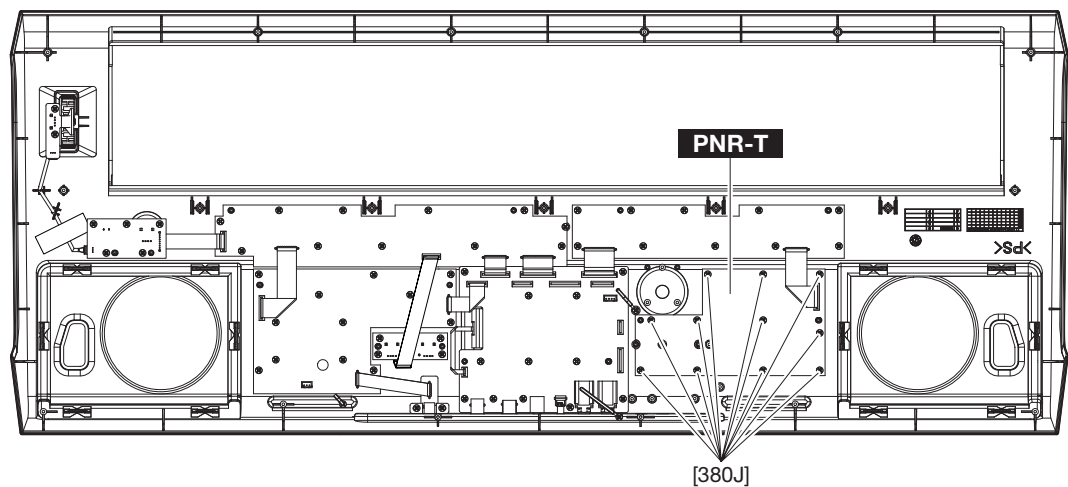

Fig.7
3. Remove the 11 screws [380J]. The PNR-T circuit board can then be removed. (Fig.7)